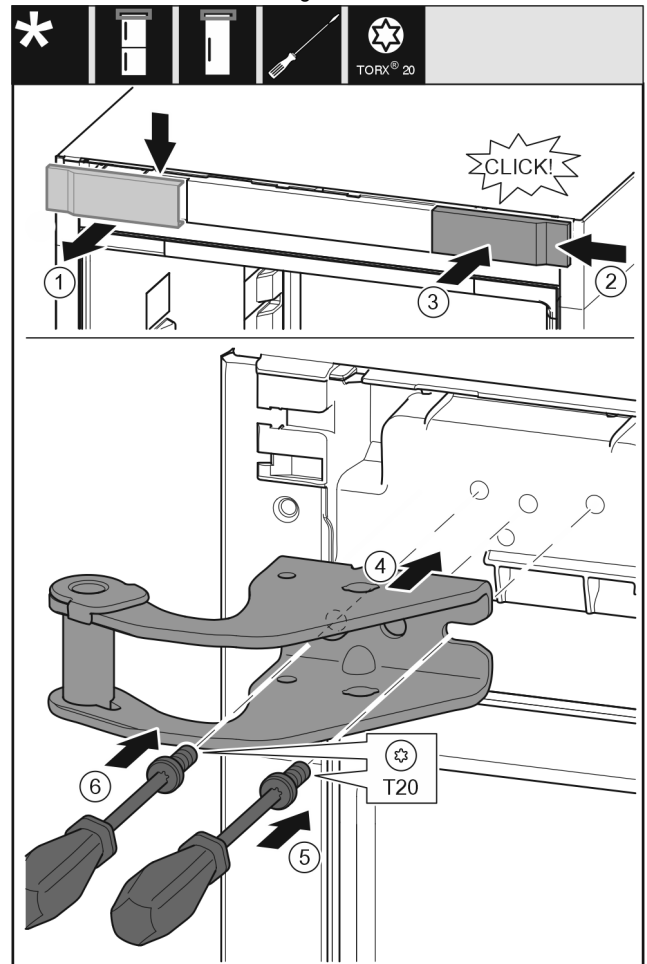

Fig. 9
- ▶ Take off the cover to the front from above. Fig. 9 (1)
- ▶ Rotate the cover 180° and clip onto the other side from the right. Fig. 9 (2)
- ▶ Latch the cover into place. Fig. 9 (3)
- ▶ Position the upper bearing bracket. Fig. 9 (4)
- ▶ Insert the screw with a T20 screwdriver and tighten it. Fig. 9 (5)
- ▶ Insert the screw with a T20 screwdriver and tighten it. *Fig. 9 (6)*